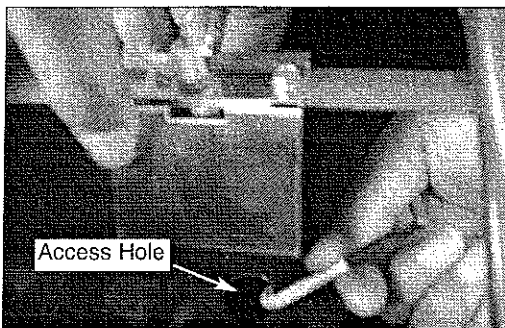

Fig 7
7. Disconnect the wires from the main burner igniter. (See Fig. 7)
22. Connect the igniter wires to the igniter. (See Fig. 7 on previous page)